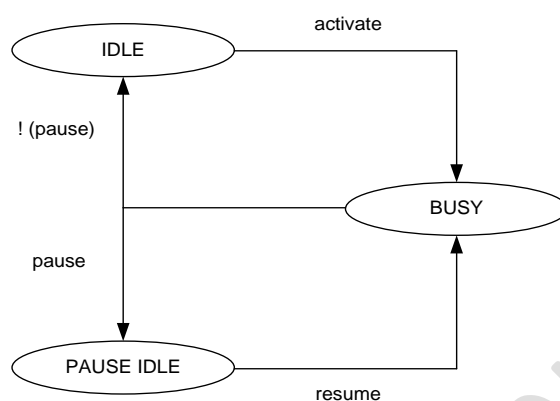

Figure 1-2. Operation flow with or without PAUSE mode
- Unlimited length for transmission. This is achieved by the operation of PAUSE mode. In PAUSE mode, the CS_N signal stays active (low) after the transmission. At this time, the SPI controller is in PAUSE_IDLE state, ready to receive the resume command. The state transition is shown in Figure 1-2.